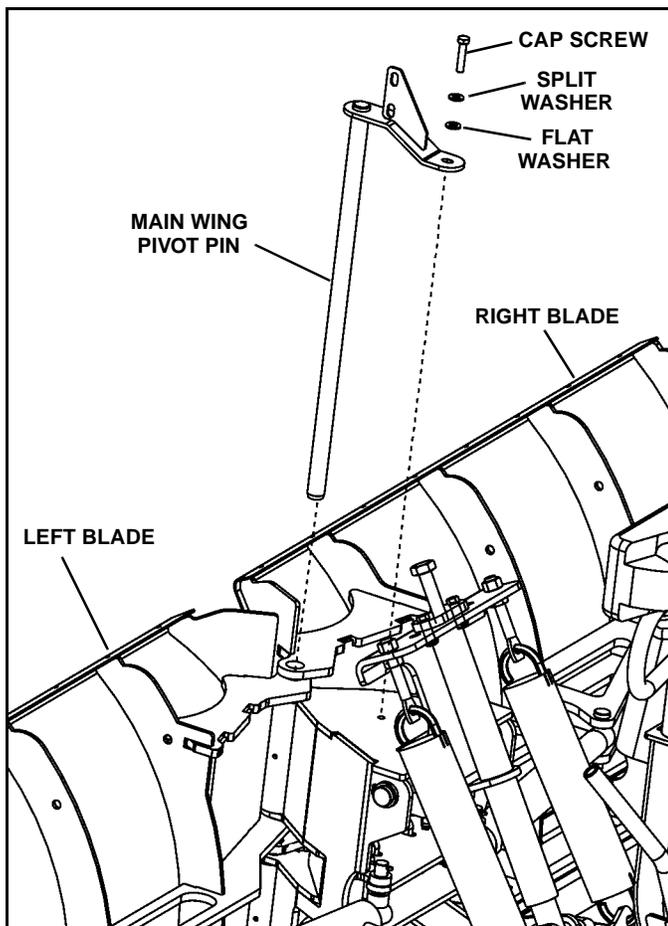

Figure 1-7
5. Coat main wing pivot pin with grease and insert completely through the tower, blade section pin holes, and support plate holes. (See Figure 1-7)